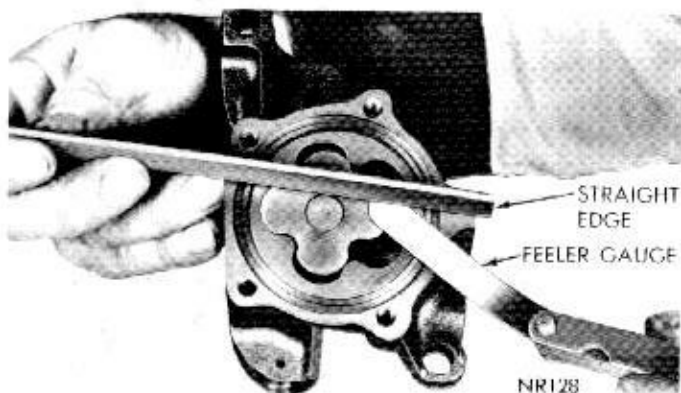

Fig. 52—Measuring Clearance Over Rotors
(8) Place a straightedge across face between bolt holes (Fig. 52). If a feeler gauge of more than .004 inch can be inserted between the rotors and straight-edge, replace pump body.
(9) Inspect oil pump relief valve plunger for scoring and for free operation in its bore. Small scores may be removed with 400 grit wet or dry paper.